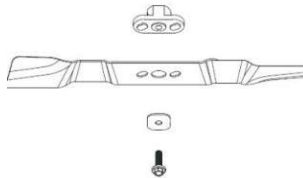
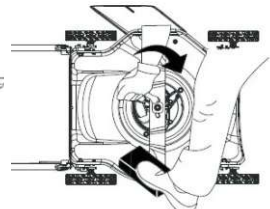

Fig.11B
Fig.11C
- Align the washer over the blade and insert the hex bolt. Tighten the hex bolt to the torque (Fig.11B/Fig.11C)